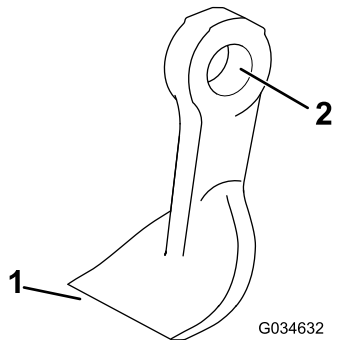

Figure 64
4. Inspect each blade for damage paying particular attention to the fasteners, cutting edge, and installation hole (Figure 64). Replace all damaged blades and fasteners.